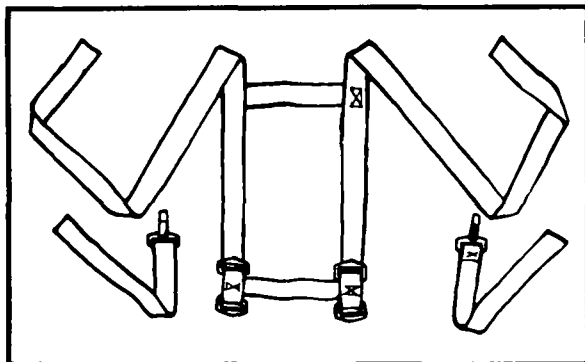

Figure 6-3. H-harness.
- a. The H-harness (modified) (Figure 6-3) consists of two nylon straps (each 84 inches long). These are connected by two 11-inch spreader bars. Each long strap has two friction adapters (3